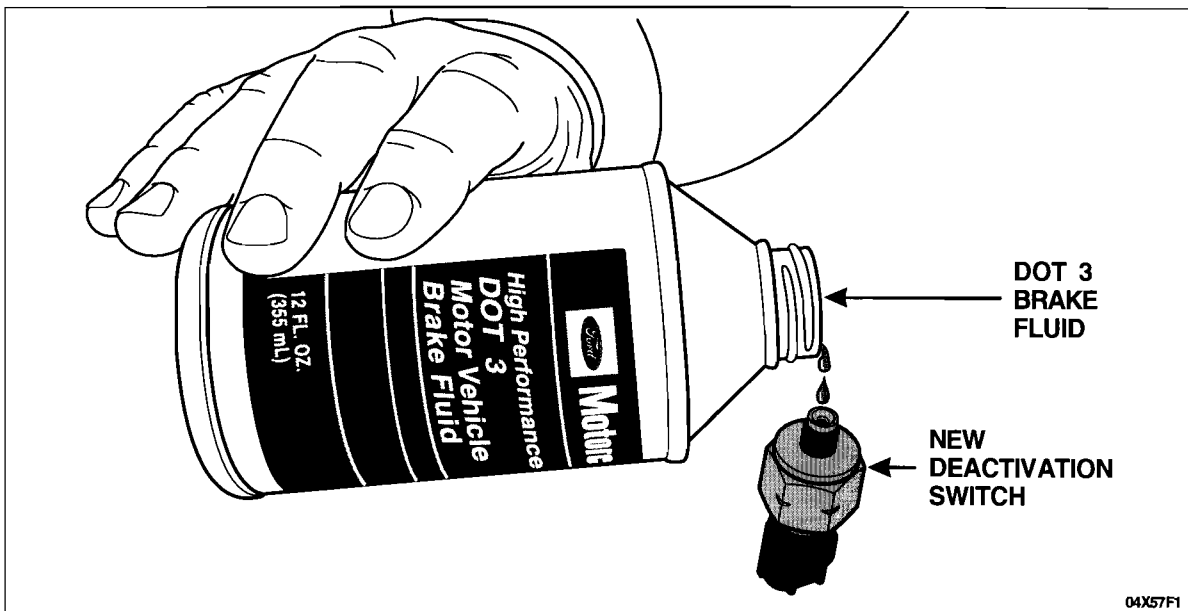

FIGURE 8
2. Add a few drops of Motorcraft High Performance DOT 3 Motor Vehicle Brake Fluid, PM1-1 or PM-1-C (US), CPM-1-C (Canada), to the fluid port at the threaded end of the *new* SCDS. See Figure 8.